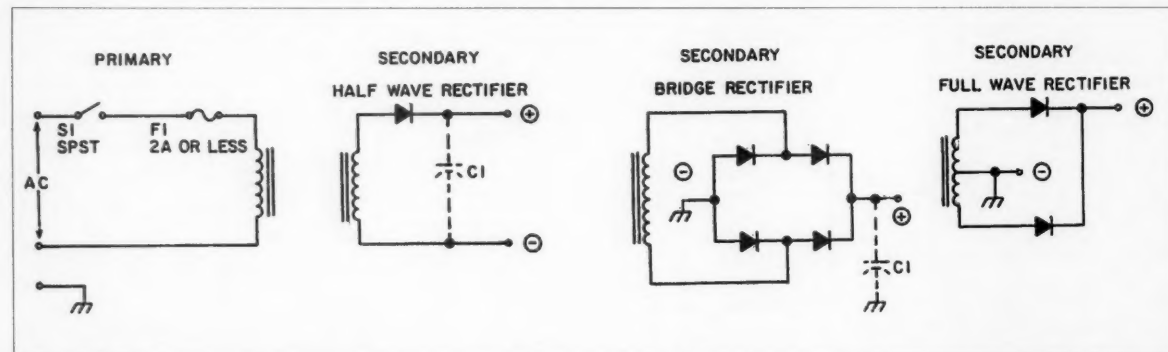

Fig. 3. The three possible configurations of rectifier circuit: Choose one based on the transformers and rectifiers you have available.
What makes a transfer relay special is that it has four connections for the RF switching path, with two connectors tied to each other at any one time. When it is operated, it reverses its path connection and makes contact to the other two connections, "transferring" the input and output connections. See **Fig. 3** for a diagram of a transfer switching configuration.
Turn page for Fig. 3.
Fig. 3. Switching system using a transfer relay and a single RF amplifier, used for receive and low power transmit applications. This is the next step up from the basic mixer-filter-only approach in microwave transverters.
The filtered raw DC obtained from this transformer, assuming the use of a single diode (half-wave rectifier) or a bridge rectifier, will be 1.414 times the measured AC voltage. In the case of a full-wave rectifier, the filtered raw DC is reduced by half. For example, a 12.6 volt (AC) transformer feeding a half-wave or bridge rectifier will yield 12.6×1.414 , or about 17.8 volts DC at the filter capacitor where a center tapped 12.6 volt AC transformer feeding full-wave rectifiers will yield $17.8 / 2$, or about 8.9 volts DC at the filter capacitor (see Fig. 3).